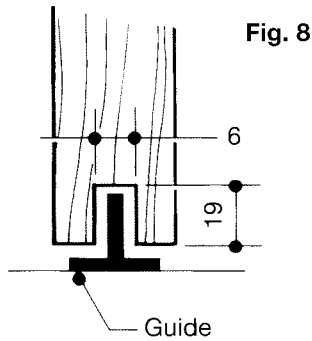

Fig. 8
Machine base guide groove if required (Fig. 8)
4. Check the combined door height, track assembly height and floor clearance against the door aperture height. Machine door to correct height if necessary. Locate positions of door top plates (Fig. 7). Drill pendant clearance bolt holes and screw fixing holes. Fix plates firmly to the door with the specified fixings. Machine base guide groove if required (Fig. 8).